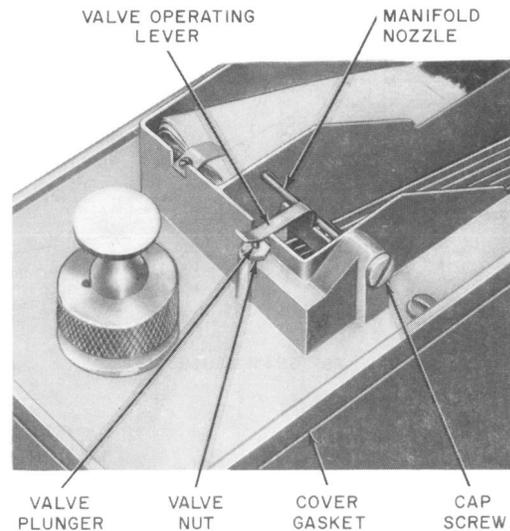

Fig. 8—Partial View of KS-16297 L50 Flushing Unit Showing Manifold Nozzle and Associated Parts
(3) The fresh liquid passes through a filter before entering the manifold nozzle. The filter is held in a retainer which screws against the flared end of the nozzle and holds the nozzle in position. The cap screw shown in Fig. 8. closes the access hole to the filter and nozzle.
(4) Adjacent to the flushing trough is the drying pad for removing excess liquid from the rotor discs after flushing. This pad should be replaced after approximately 25,000 banks have been cleaned. Replacement is recommended after this use because of wear and clogging of the pad, which reduces its absorbent properties.
(5) The fresh liquid is put under pressure by the pump mounted on the cover of the unit and extending into the can containing the fluid.
(6) The flushing unit is filled with fresh liquid by removing the pump and pouring the liquid from the washing fluid can through a commercially available funnel into the flushing unit tank or if still available the KS-16366 filler can. Used liquid is drained from the tank by removing the drain plug in the opposite end of the tank from the handle.